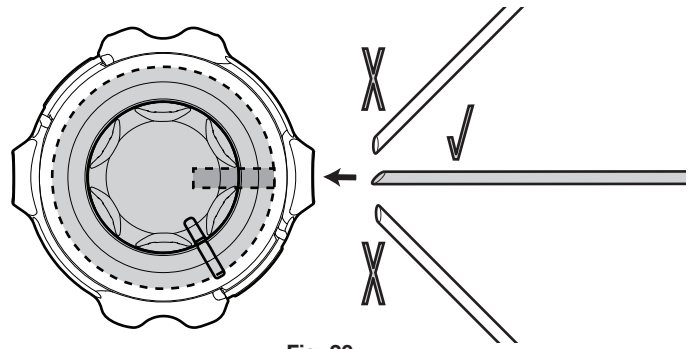

Fig. 20
- Push the line straight in (Fig. 20). **DO NOT** insert the line at an angle; doing so will cause the line to enter the wrong channel and prevent it from anchoring correctly.